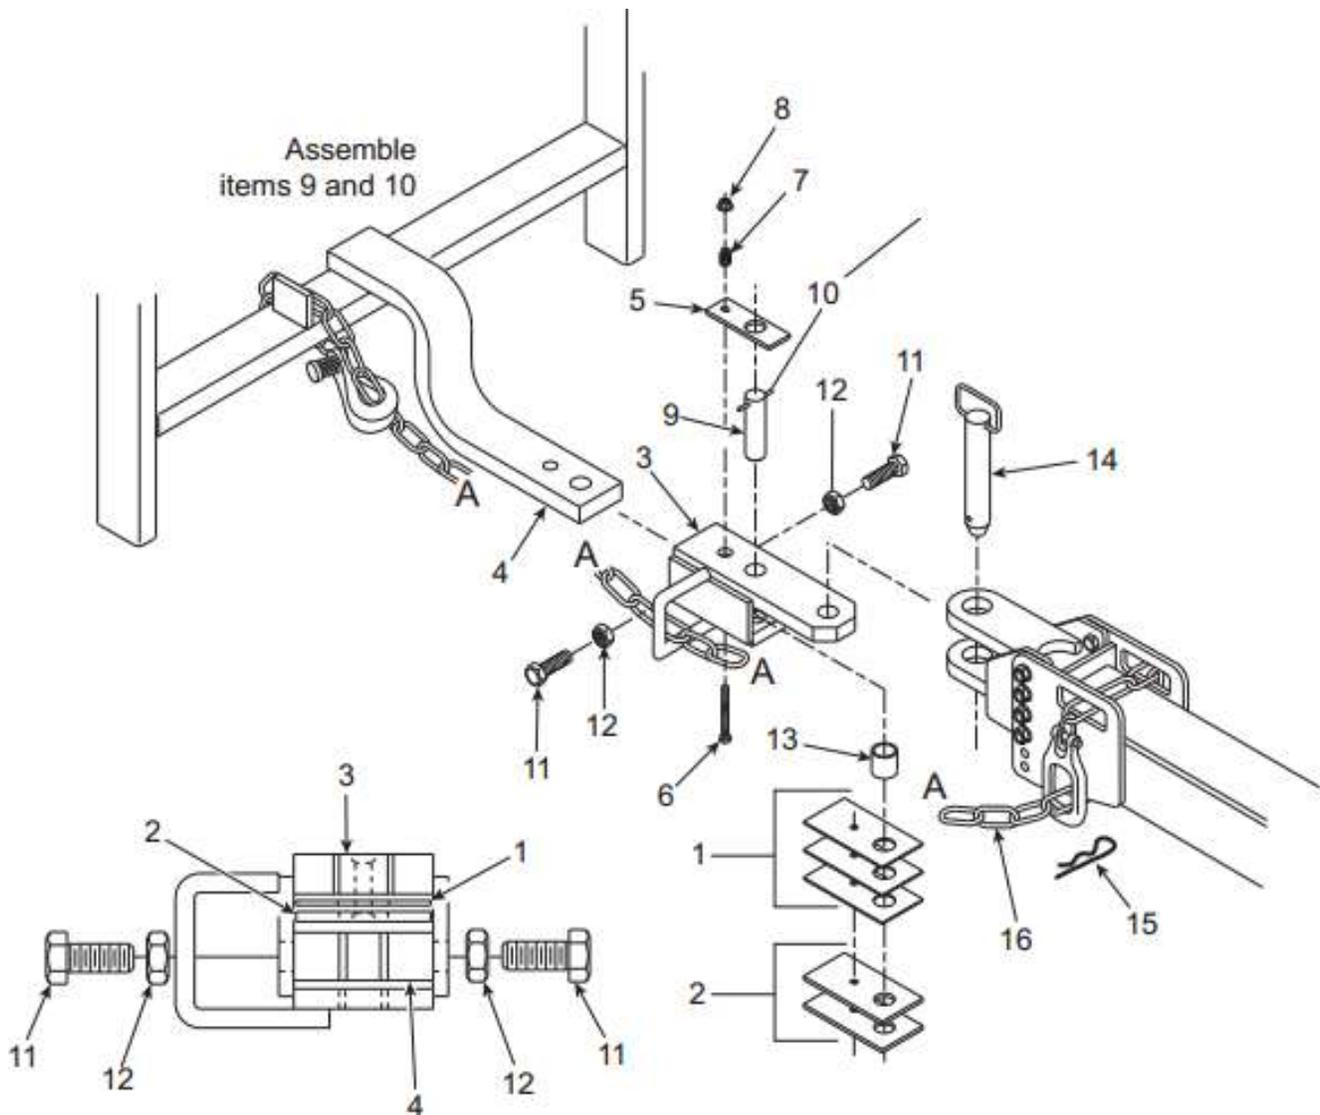

Figure 19 Cat. II drawbar extension
Refer to FIGURE 19 for the installation steps:
1. Determine if the hole in the draw bar (item 4) is too large for use with pin (item 9). If yes, use bushing (item 13) in the hole to reduce the clearance with pin (item 9). Set the parts you need aside until Step 4.
2. Insert shims (items 1 and 2) inside the extension (item 3). Insert extension (with shims) onto the draw bar (item 4).
3. Insert bolt (item 6) through the extension from underneath (Figure 19 Cat. II drawbar extension). Place plate (item 5) onto bolt (Item 6). Install the spring (item 7) and nut (item 8) on bolt (item 6). Do not overtighten. Leave enough play to allow retention or removal of lock pin (item 9).
4. Using pieces determined in Step 1, install pin (item 9) with spring pin (item 10) into extension (item 3) and lock it in place with plate (item 5).
5. Install nuts (item 12) onto bolts (item 11) and then install bolts (item 11) into both sides of the extension (item 3) as shown below.
6. Center the extension (item 3) on the draw bar (item 4). To center side to side, use the bolts (item 11). Once centered, lock the bolts in place using the nuts (item 12).
7. Insert pin (item 14) and lock with the safety pin (item 15).